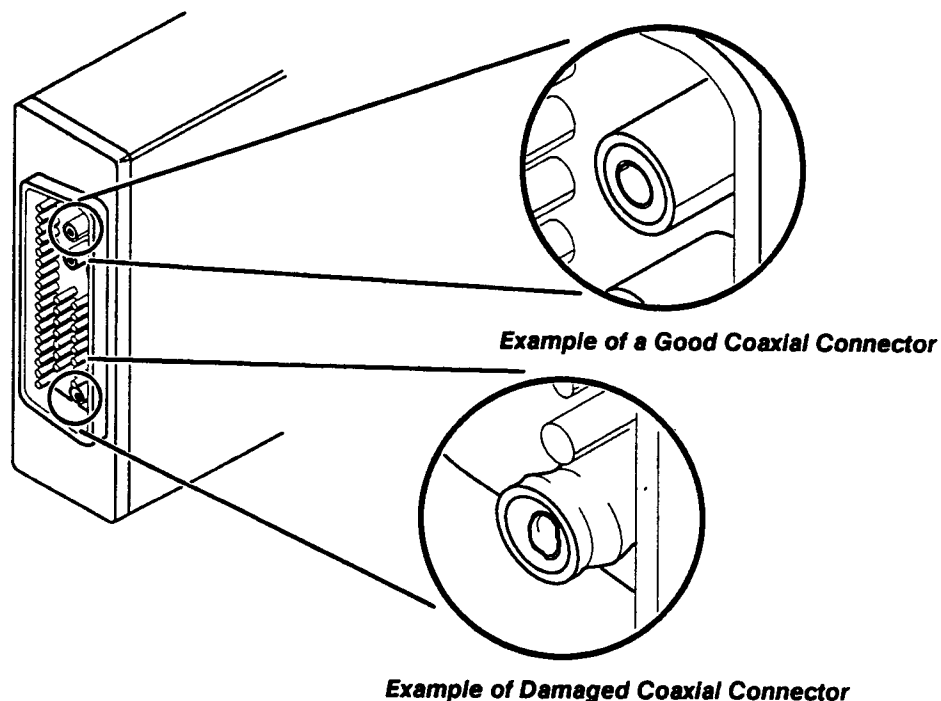

Figure 3 - Sampling head "D" connectors.
- ❑ 2. Examine the coaxial cable connectors located in the sampling head "D" connector (interface connector). Check the coaxial connectors shields and conductors for damage. Make sure the coaxial connectors are in the proper position, **not pushed back into the plastic housing**. Refer to Figure 3, Sampling head "D" connectors. **Send Sampling Heads with damaged interface connectors to Tektronix for factory repair.**
- 13. Remove the two (2) Torx head screws that secure each black retaining brace located on the top of the Acquisition Unit. Then remove the retaining braces from the Acquisition Unit.
- 15. Install U611, microcircuit on the Acquisition MPU circuit board A28. Refer to Figure 3, for component location.